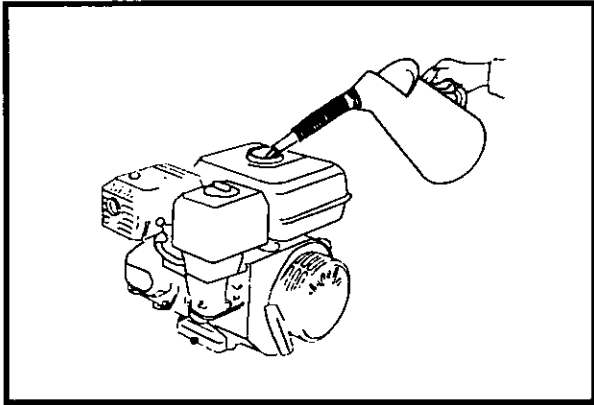

Figure 5-3 Fuel Fill
5. Check the fuel level. If necessary fill the fuel tank with the correct fuel, Refer Figure 5-3.